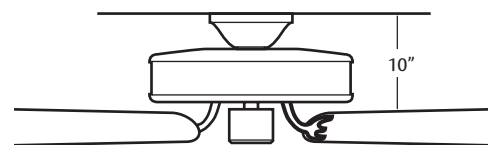

Figure 1 - Flush mounting
**Flush Mounting** (Figure 1) fits close to the ceiling, for low ceilings less than 8 feet high.